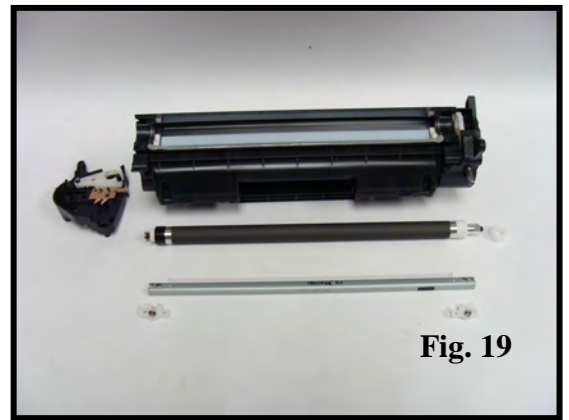

Fig. 19
19. Clean the toner hopper thoroughly of all residual toner. Add proper gram load of new toner to the hopper. Clean or replace all components and reassemble the toner hopper in reverse order (Fig. 19).